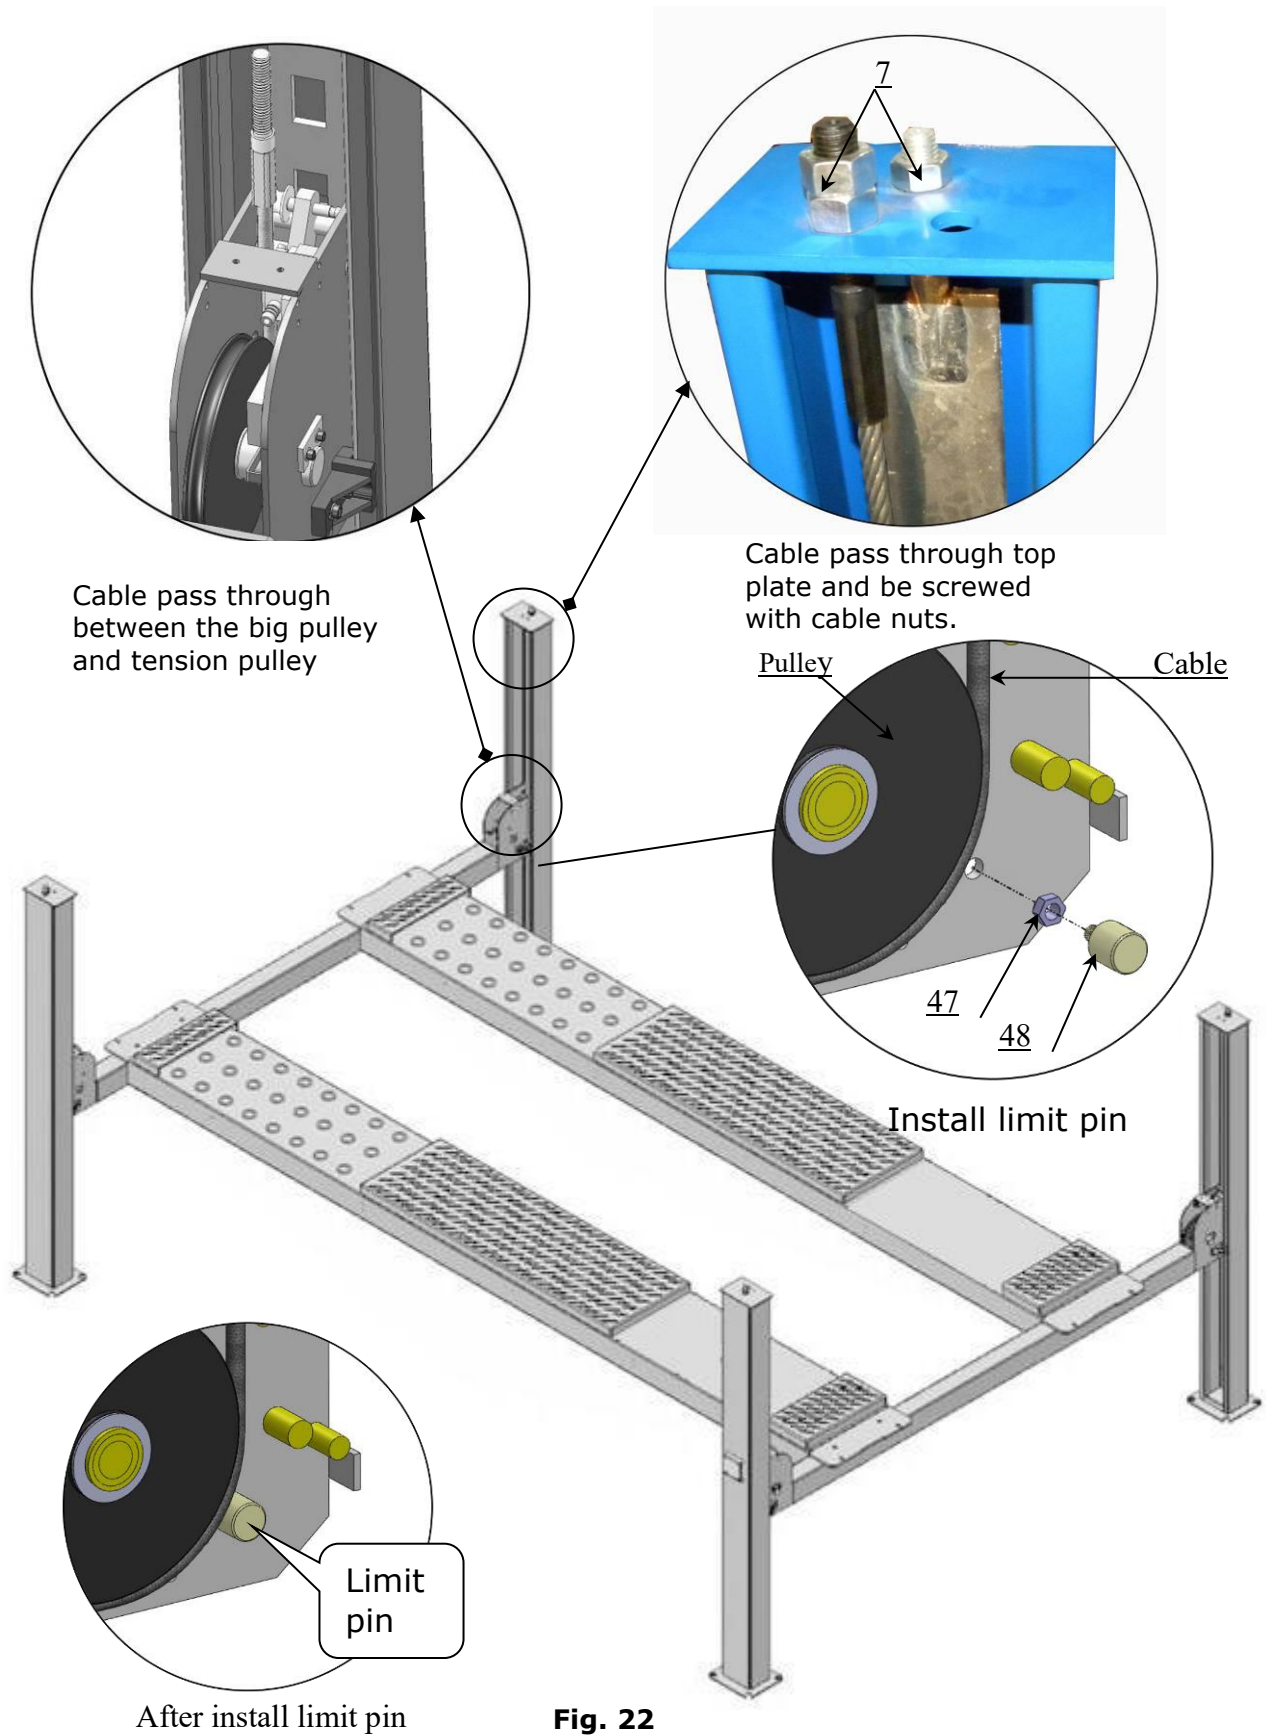

Fig. 22
2. The cable pass through the cross beam to top plate of columns and be screwed with cable nuts (**See Fig. 22**).